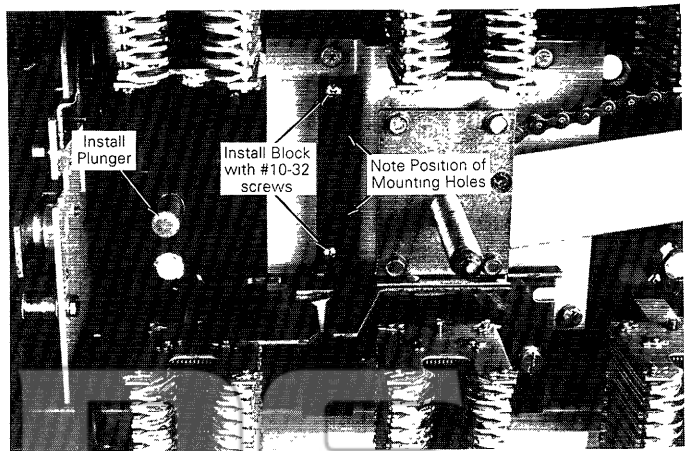

Figure 4. Interlock plunger and block installed in the breaker.
2. Install the interlock plunger in the hole made in step 1, as shown in Figure 4.
3. Install the support block, as shown in Figure 4, with two #10-32 Philips-head screws tightened to 15 in-lb.